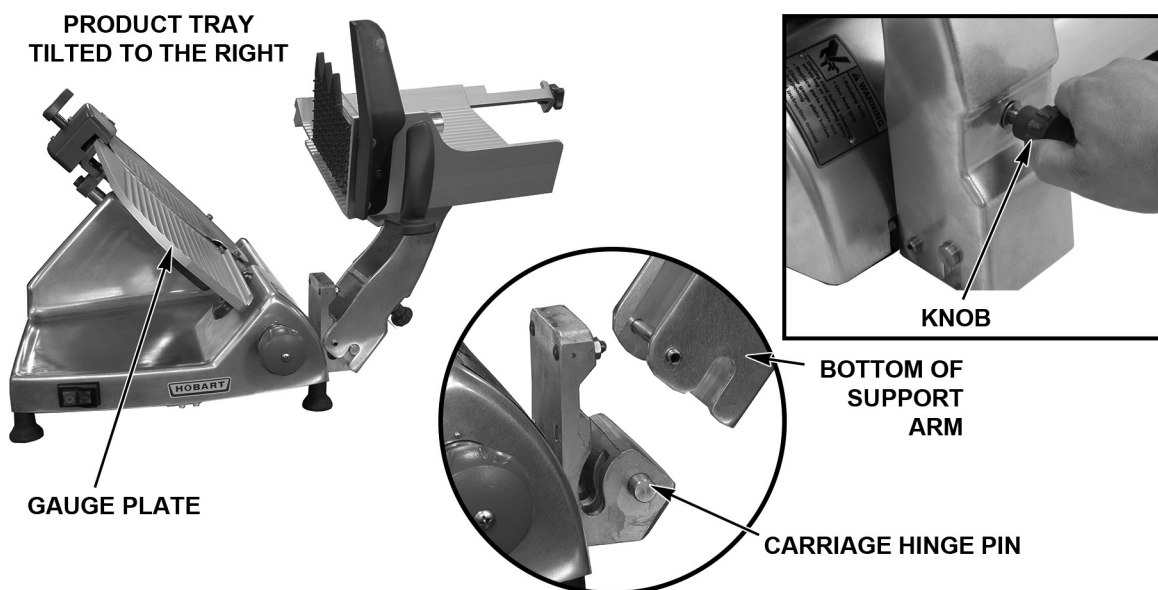

Fig. 8
- Loosen the Knob (Fig. 8) on the Support Arm. Tilt the Product Tray to the right (Fig. 8).